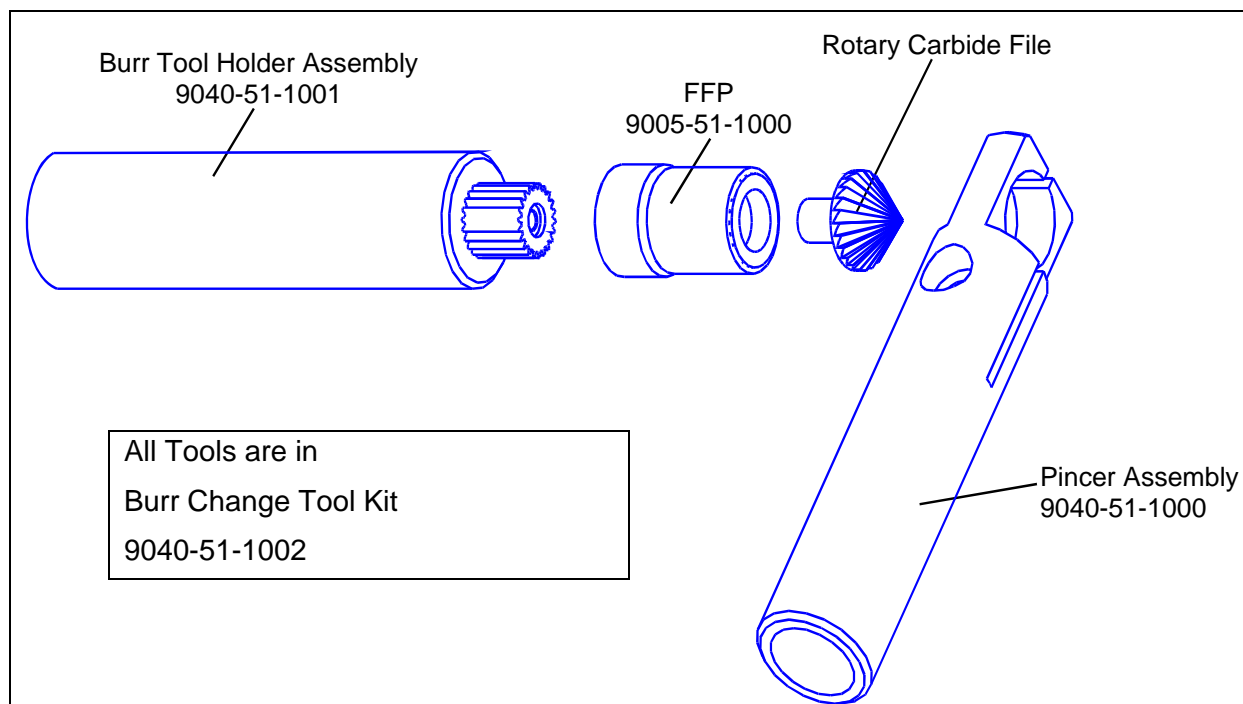

Figure 6.1—Burr Replacement Tools
8.3 Replacement of Files/Burrs (See Figure 6.1)